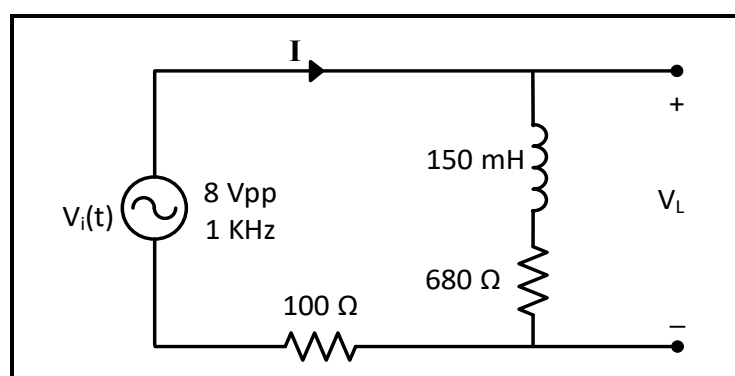
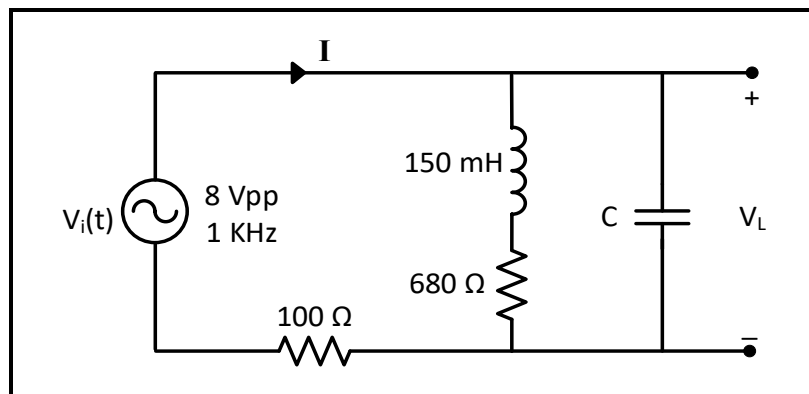

Figure 8.6
Figure 8.7
2. For the circuit of Figure 8.6:
- Use PSpice to do transient analysis of the circuit in Figure 8.6, show $I(t)$ and $V_L(t)$ (indicated on circuit) on one graph, you will need different Y-axis, and measure the power factor (from the time difference between the two waveforms).
1. Connect the circuit of Figure 8.6, set the function generator to produce a sinusoidal voltage at 8 V_{PP} and $f = 1$ KHz.
1. For the circuit of figure 8.6: connect the capacitor value that you calculated in your prelab to correct the power factor to unity, in parallel with the load as shown in figure 8.7.